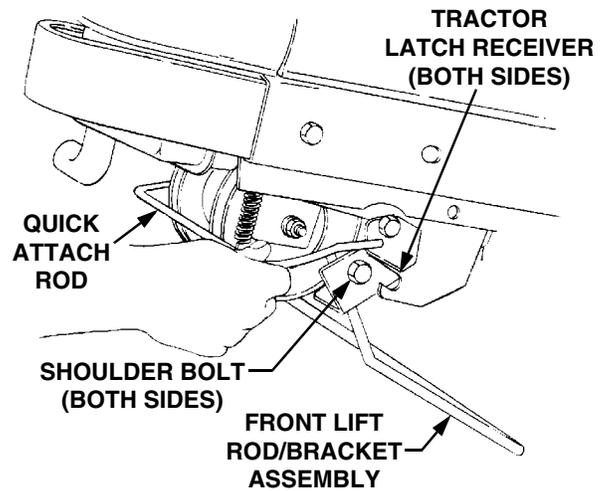

Figure 54
14. From the front of the tractor, push downward and hold the tractor quick-attach rod. Pull the front lift rod/bracket assembly forward to release the shoulder bolts on each side of the bracket from the left and right tractor latch receivers. Release the tractor quick-attach rod (Refer to Figure 54).